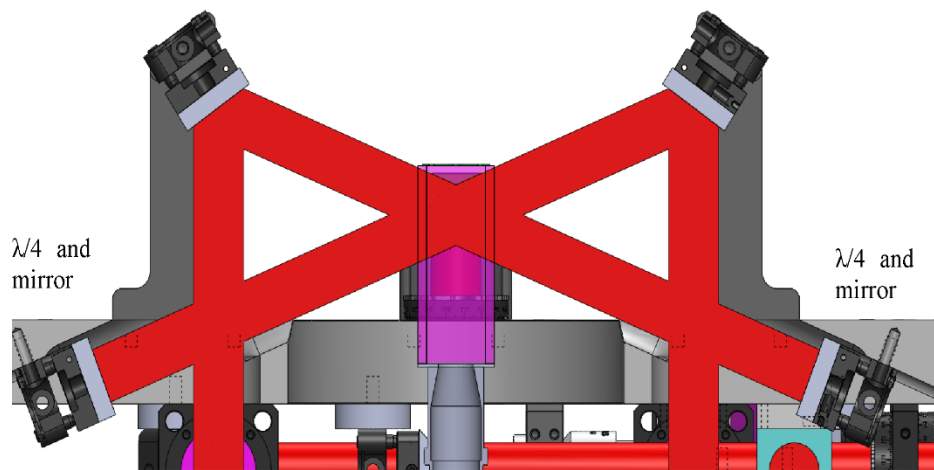

Figure 10: Cross-sectional view of the six-beam MOT stage showing the angled beam path.
Shown in the cross-sectional view in Figure 10, the angled beams are each aligned through the cell with a pair of mirrors to allow for exact alignment of the two beams relative to the horizontal beam. These two beams are designed to be 22° above the stage, which allows for the MOT to be closer to the atom chip in the RuBECi. The polarization of each of these two beams is set with a half-waveplate (HW) and a quarter-waveplate (QW), as shown in Figure 10.